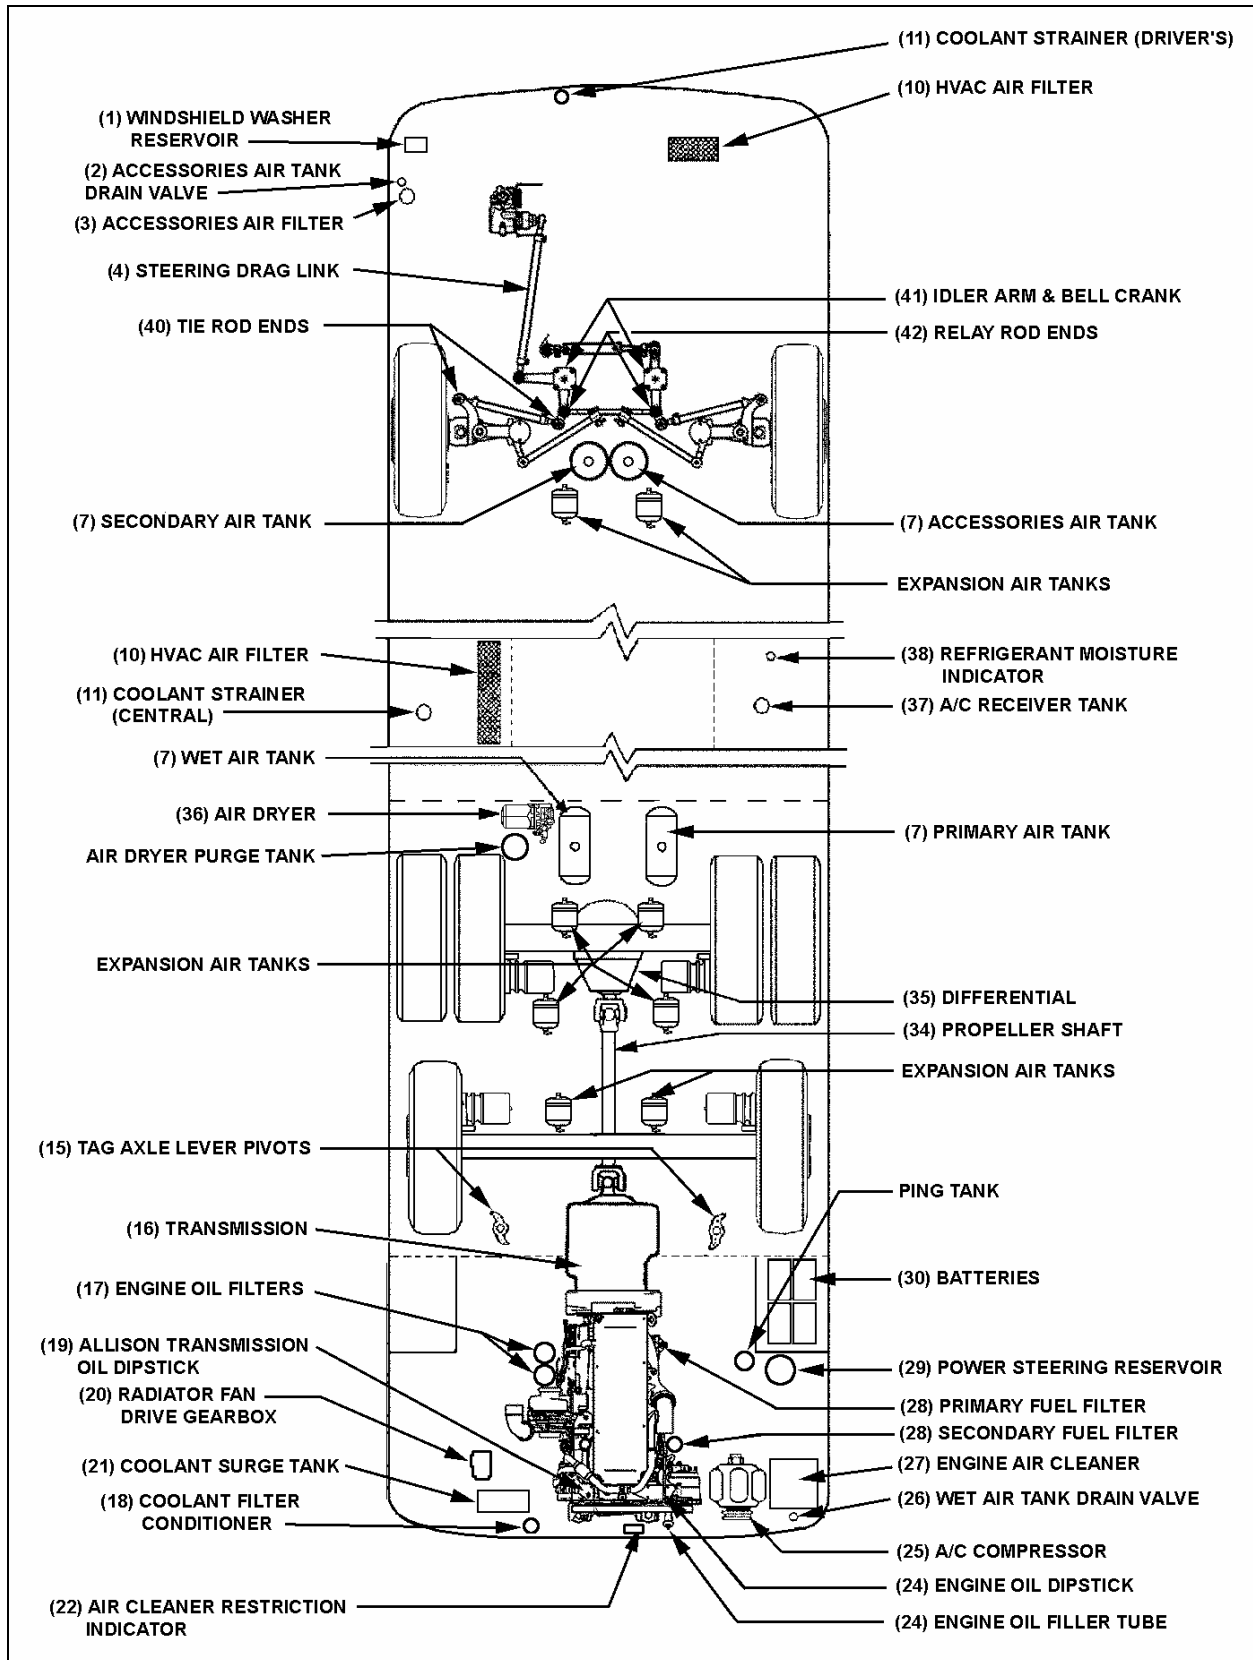

FIGURE 1: LUBRICATION AND SERVICING POINTS ON INDEPENDENT FRONT SUSPENSION VEHICLES
- FIGURE 1: LUBRICATION AND SERVICING POINTS ON INDEPENDENT FRONT SUSPENSION VEHICLES 5
¹ Item numbers refer to figures 1